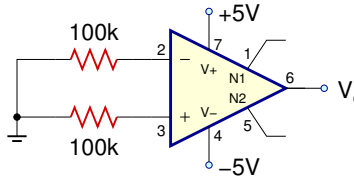

Figure 2: Offset Current Measurement Configuration
1. Build the circuit in Fig. 2 and measure the voltages across the two $100k\Omega$ resistors (after measuring one, switch the two resistors and make the second voltage measurement on the same resistor, but on the other terminal).